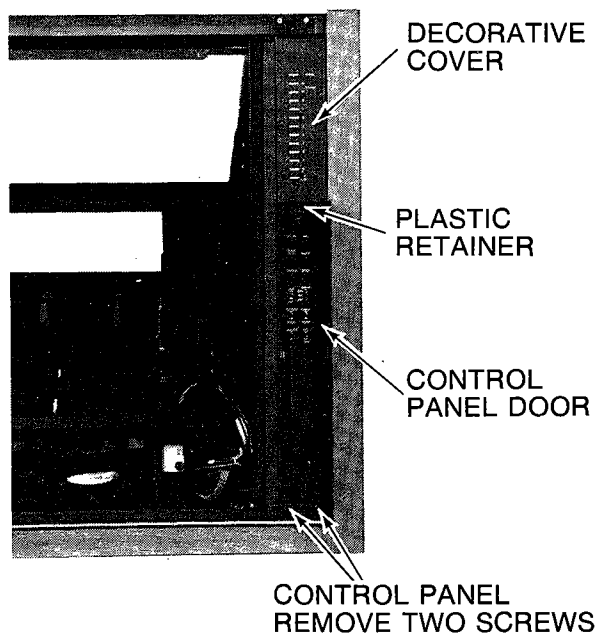

Fig. 13d — Control Block (Panel)
1. Open control panel door and remove two (2) screws holding door (Fig. 13d). Pull out and down to remove door.
2. Remove upper key-board decorative cover (Fig. 13d) by pressing plastic retainer together.